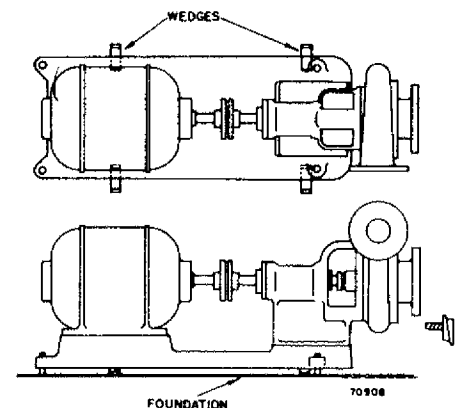

Fig. 2
- (a) Put the pumping unit in place on the wedges furnished. The wedges should be placed at four points, two below the approximate center of the pump and two below the approximate center of the driver (See Fig. 2). Some installations may require additional wedges near the middle of the bedplate.